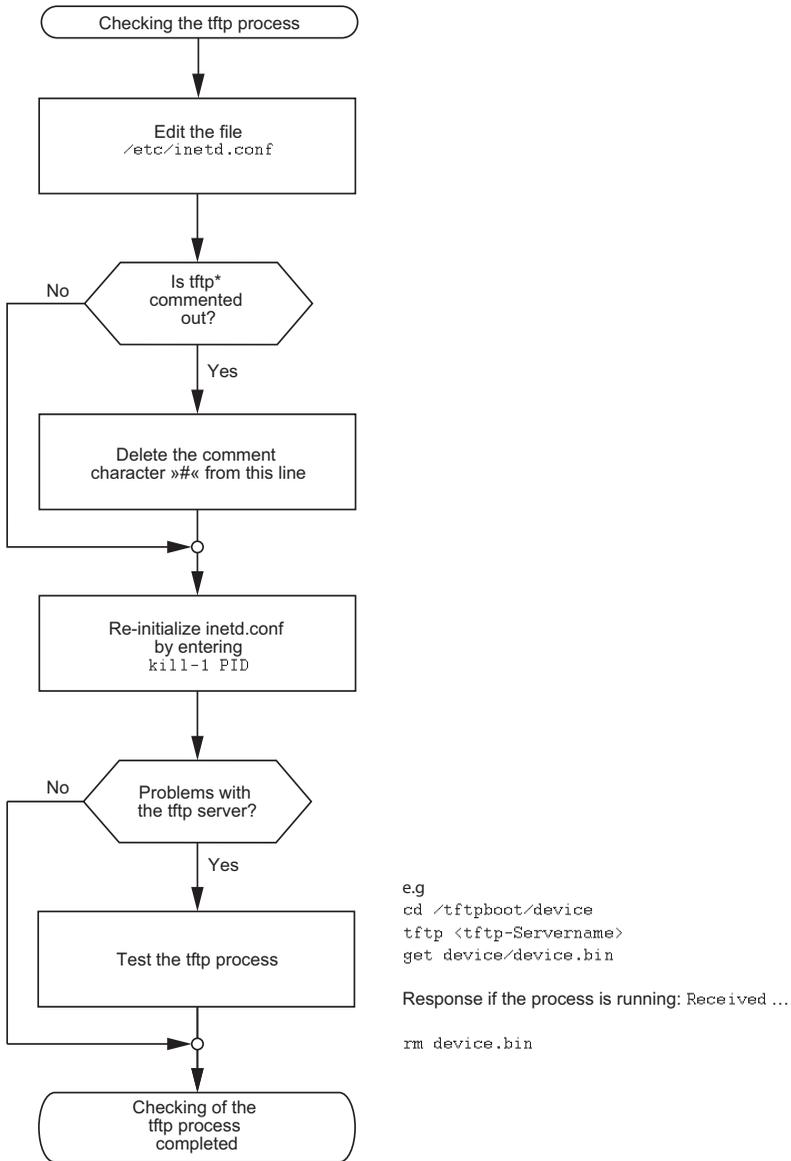

Figure 55: Flow chart for setting up tftp server with SunOS and HP
- First check whether the tftp daemon (background process) is running, i.e. whether the file `/etc/inetd.conf` contains the following line (see figure 55) and whether the status of this process is "IW":